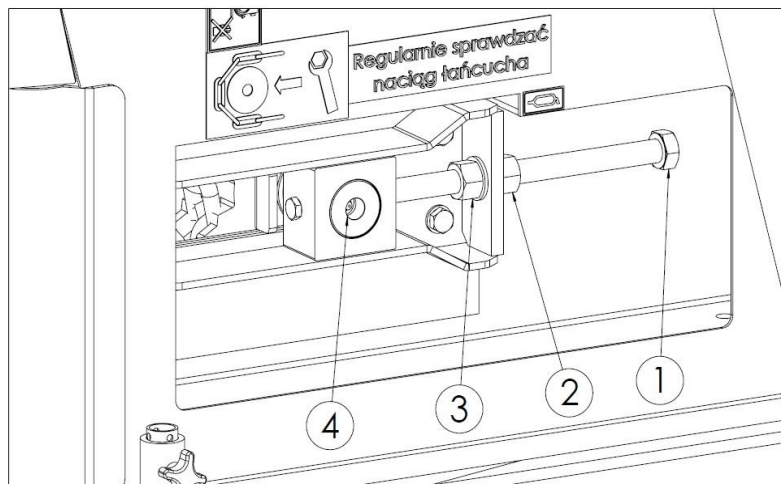

Fig. 31. Tensioning the floor conveyor chain
Every day, check the tensioning of the floor conveyor's chains during operation, especially in the initial period of operation. Use the adjusting screws to tension the conveyor's chains – the screws can be found in the front section of the load body's side walls - see Figure 31. To increase chain tension, loosen the nut (2) while holding the nut (3) with a wrench and use the bolt (1) to move the bearing unit (4) forward. Follow the tensioning procedure on both sides of the spreader, ensuring that chain tension values are equal.